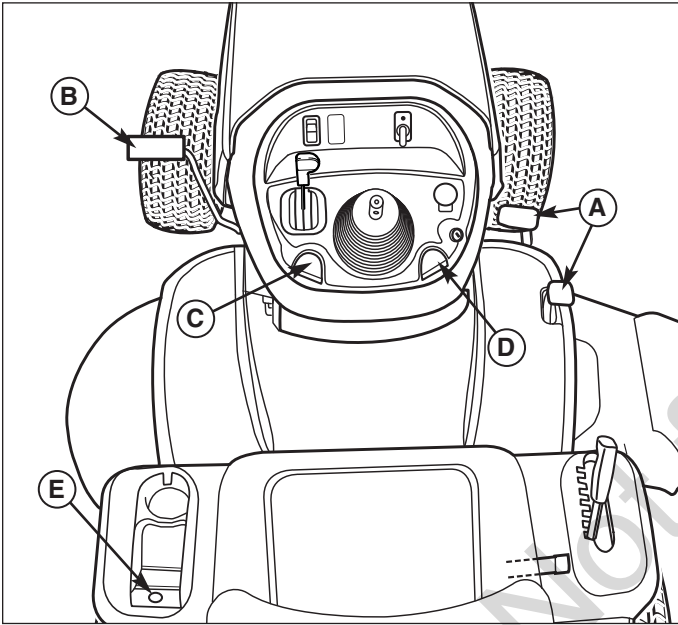

Figure 2. Engaging the Parking Brake
Applying the Parking Brake - See Figure 2. To lock the parking brake, release the ground speed pedals (A), fully depress the brake pedal (B), pull UP on the parking brake knob (C), and then release brake pedal.
Releasing the Parking Brake - See Figure 2. To release the parking brake, depress the brake pedal (B).
1. Pull up on the cruise control knob (D, Figure 2).
2. Depress the forward ground speed pedal (A).
3. Lift up the cruise control knob (D) when desired speed is reached. The cruise control will lock in one of its six locking positions.
1. Depress the brake pedal (B, Figure 2).
The 12-volt accessory plug (E, Figure 2) is located in the left side pod. It can be used to power small electronic devices. The accessory must be rated at 9 amps or less.